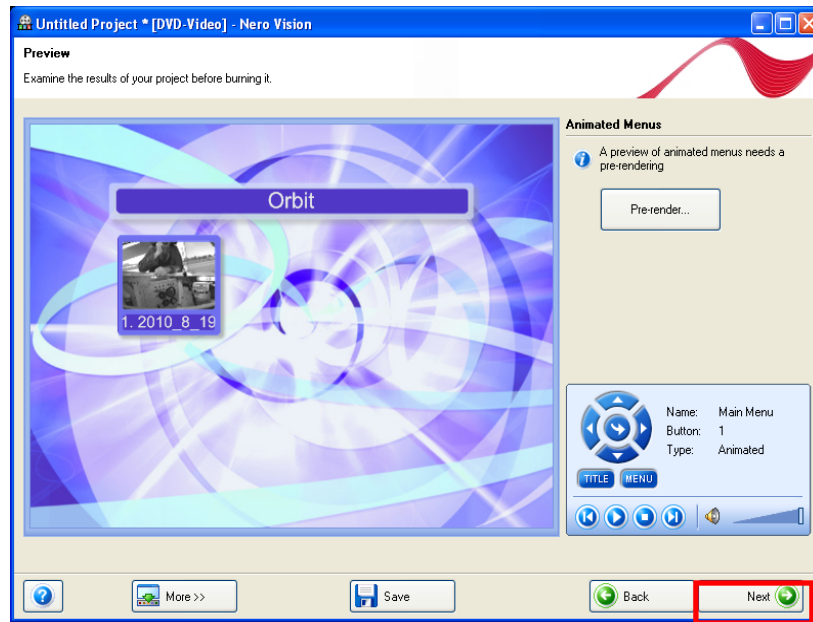

Figure 169. AAR – Preview Menu
7. Click [NEXT], and the Preview Menu window will appear (Figure 169).